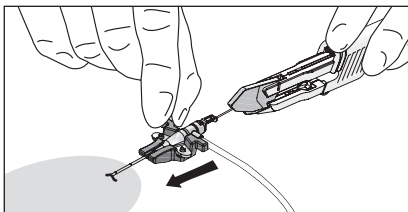

Figure 8
11. Holding device stationary, advance the catheter over guidewire into vessel (refer to Figure 8).